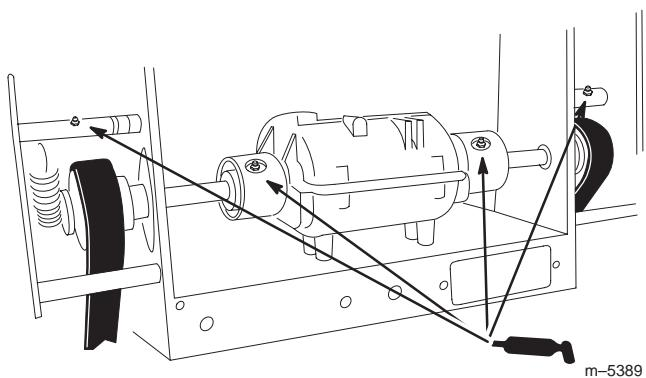

Figure 34
2. Lubricate the transmission couplers after every 100 operating hours and the idler bracket pivots after every 8 operating hours (Fig. 34).